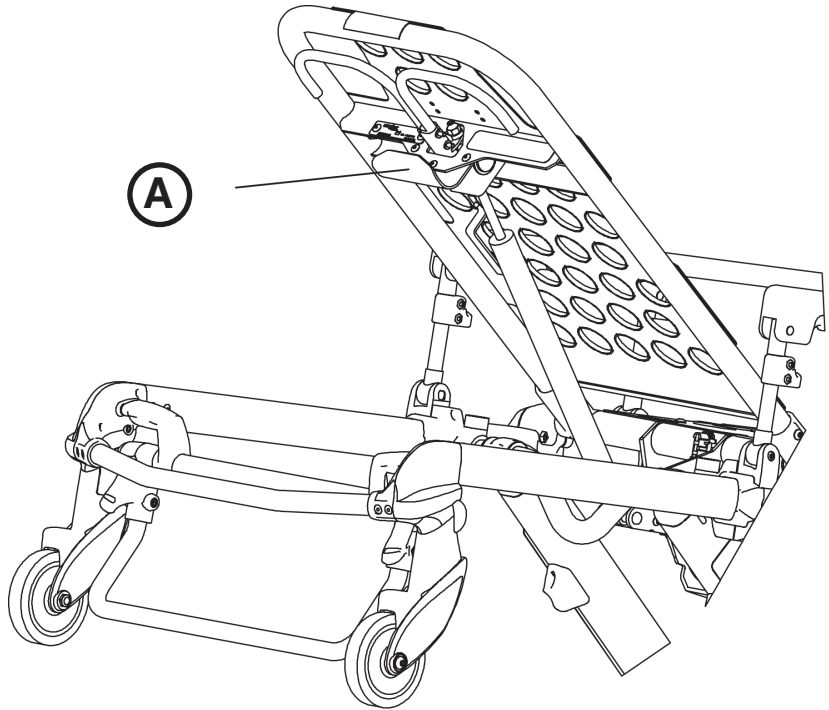

Figure 85
Use the equipment hook (A) (see Figure 85) to hang additional accessories or equipment, such as defibrillators or monitors.